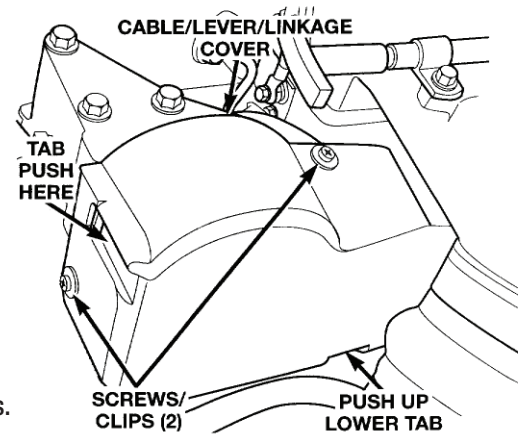

Figure 1
2. Remove cable cover by first removing the (2) Philips screws and prying out retention clips. Then push rearward on front locking tab and upward on lower locking tab. (Figure 1)
3. Remove (6) mounting bolts and partially remove throttle position sensor (TPS)/accelerator pedal position sensor (APPS) assembly from engine. Rest TPS/APPS assembly in a secure location without placing strain on the electrical connector or cables. Cables do not need to be removed from bracket assembly.